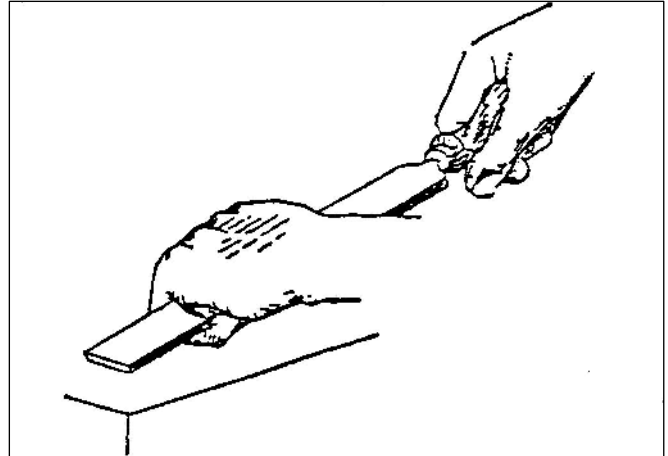

Fig 5 - The scraper cuts on the forward stroke. The pressure should therefore be relieved on the back stroke
Step 16 (Figure 5)
Step 17 (Figure 5)
Step 18 (Figure 5)
The straight scraper should be held as shown in Fig. 5, a slight amount of pressure being used to hold it against the work. The amount of this pressure is determined by the metal which is being scraped, the harder the metal the more the pressure required.